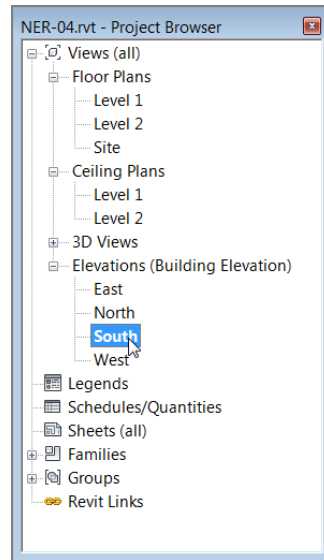

FIGURE 3.1: Finding an elevation in the Project Browser
1. In the Project Browser, double-click the South elevation. It's located under Elevations (Building Elevation), as shown in Figure 3.1.